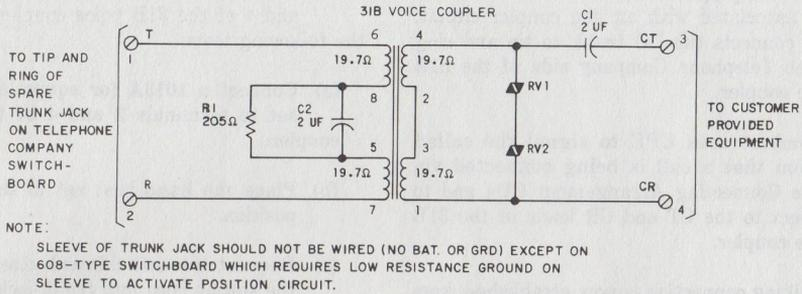

Fig. 2—Connections for 31B Voice Coupler
- Change note in Fig. 2 for connecting 608-type switchboard
1.03 The 31B voice coupler is a direct replacement for the 31A (MD) voice coupler. The 31B voice coupler may be used in all CD4 arrangements; the 31A (MD) may not be used where tone signaling is required. The 31B is identical to the 31A coupler except for higher breakdown voltage rating of the transformer and varistors.
- 6.01** Refer to Fig. 2 and 3 for a typical connecting arrangement.